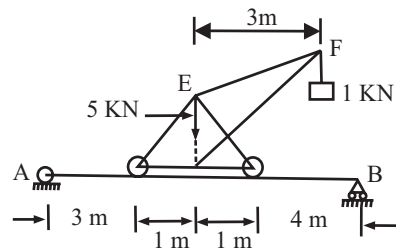

Fig 4
Q.4. Find the support reactions in the beam as shown in fig 4.